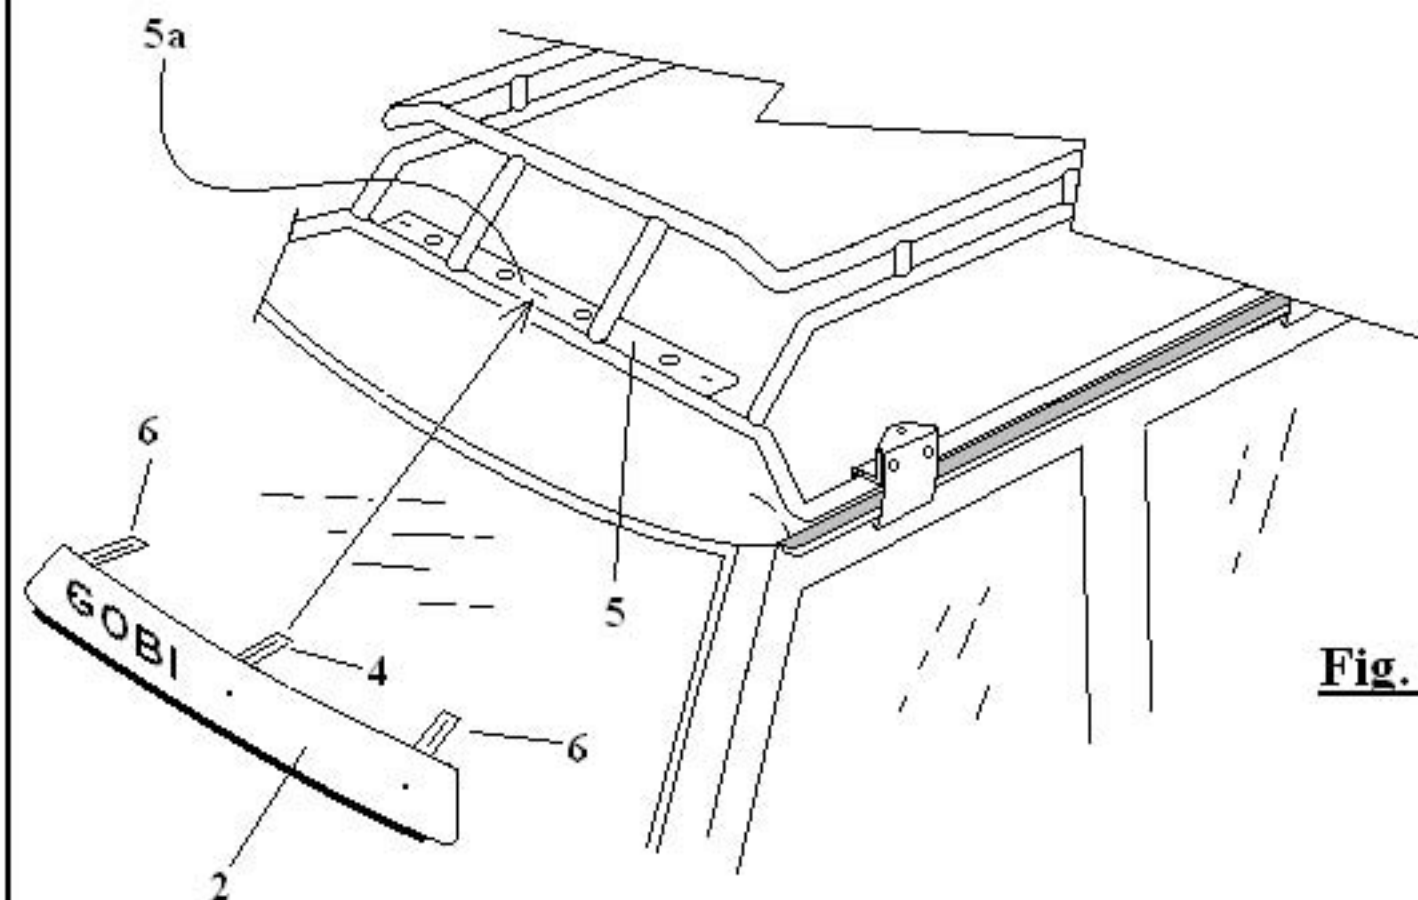

Fig. 3
- 6- Refer to page 7 Fig.3 Fairing comes preassembled with fairing brackets #4 attached. The position of each attached fairing bracket may not be fixed at the proper height for your particular roof line. Adjustments may have to be made in order for the fairing to conform correctly to your vehicle's roof line. Begin by attaching the fairing's center bracket #4 to the middle slot #5a of the Gobi roof racks light bar #5 shown on page 7 Fig. 3. Use the 1/4" screws, flat black nylon washers and Nylock nuts located in Bag #2 of your hardware kit. Provide approximately a 2" gap between the fairing and the Gobi rack outer tube as shown on page 7 Fig. 4a. Tighten down the center nut and screw at this time. Proceed to either the passenger or drivers side and pull the fairing in the direction of the arrows on page 7 Fig. 4 letters "F" and "G" while pushing down on the fairing towards the vehicle roof top at the same time. Pull each side until the fairing either makes contact with the Gobi roof rack or comes in close proximity. Align fairing brackets #6 to the Gobi light bar fairing slots at the ends of the Gobi light bar #5 (*fairing brackets may appear to be slightly tilted against the light bar but this is normal and brackets will flatten out after tightening*) and insert the 1/4" screw and flat black nylon washer through fairing bracket #6 then through the Gobi light bar slot and secure the fairing in place with the 1/4" black nylon washer and Nylock nut. Proceed to the opposite side and continue attaching the fairing in the same manner. Be sure that the fairing throughout its length is making contact with the roof top as snug as possible. Fairing brackets may need to be adjusted either up or down and in some cases you may bend the fairing bracket to accommodate the final result. Once the fairing is in the proper position tighten all fairing bracket screws firmly. Roof rack installation is complete.